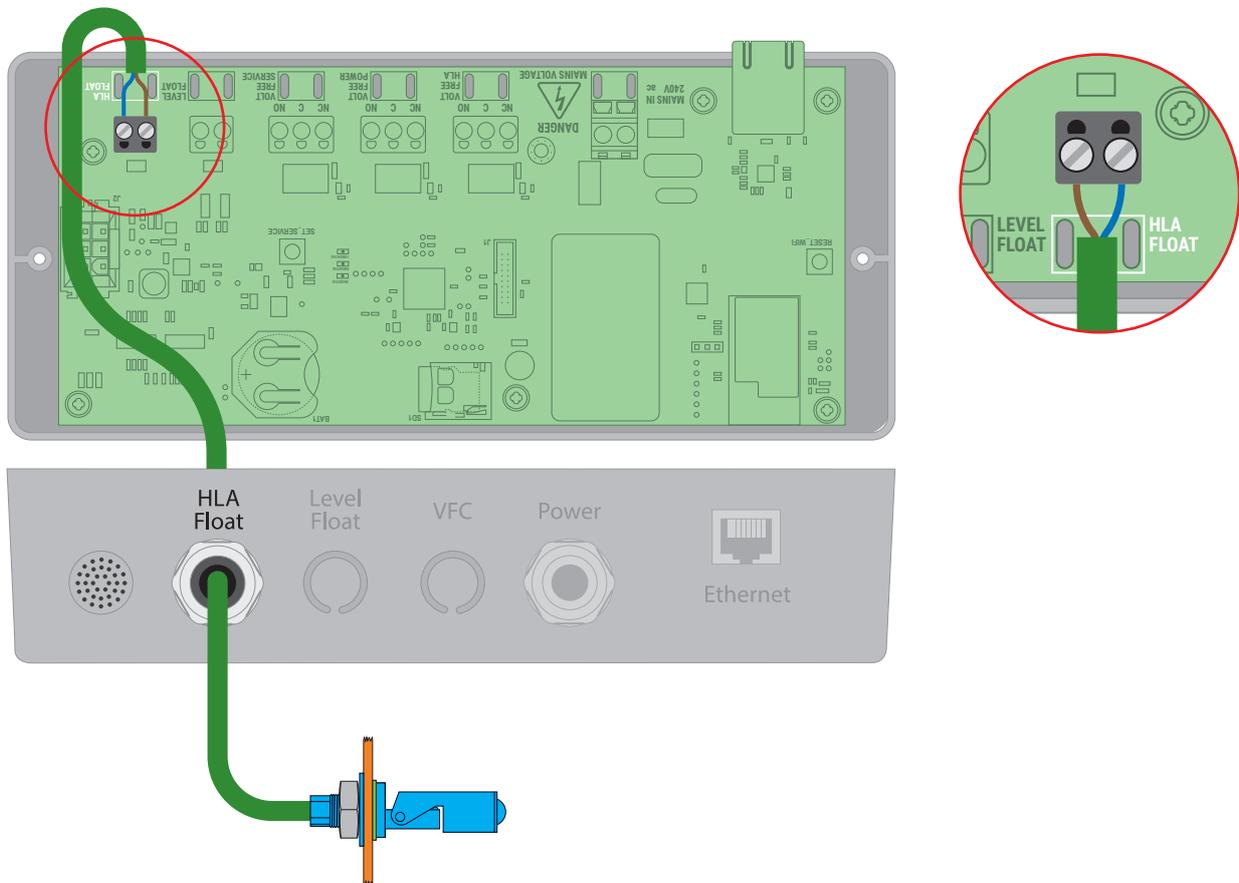

Figure 7. Connecting the Delta Broken Finger Float to the Delta HLA Plus Control Unit.
3. Connect the brown core left terminal and the blue core to the right terminal of the HLA FLOAT terminal block as shown in Figure 7 inset.